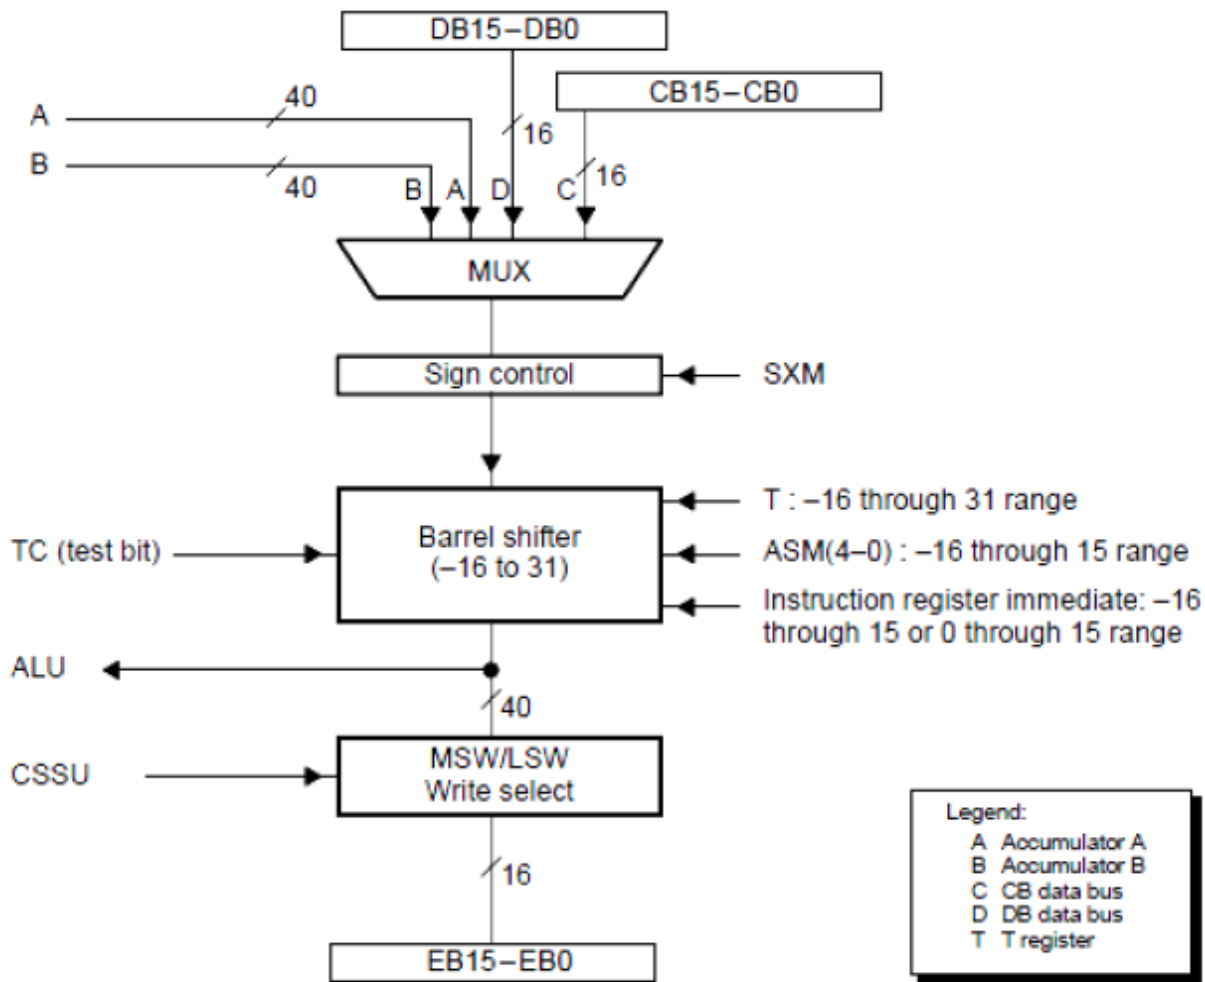

Figure 3.3. Functional diagram of the barrel shifter
**Barrel shifter:** provides the capability to scale the data during an operand read or write. No overhead is required to implement the shift needed for the scaling operations. The '54xx barrel shifter can produce a left shift of 0 to 31 bits or a right shift of 0 to 16 bits on the input data. The shift count field of status registers ST1, or in the temporary register T. Figure 3.3 shows the functional diagram of the barrel shifter of TMS320C54xx processors.